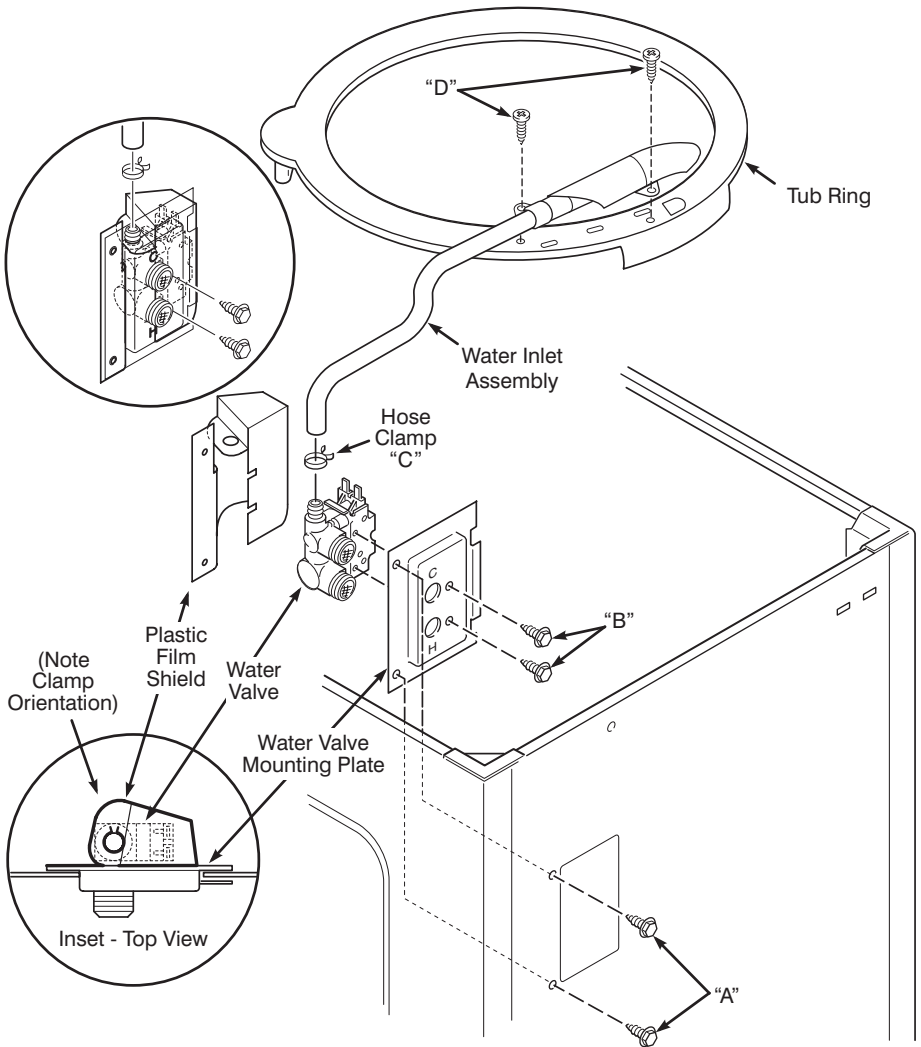

Figure 8
2. Referring to Figure 8, first remove (2) water inlet screws (labeled "D"), then remove water inlet hose clamp (labeled "C"), and set hose aside.
4. Remove (2) water valve mounting plate screws (labeled "A").
6. Remove (2) valve mounting screws (labeled "B") from plate. Remove valve.
1. Install (2) mounting screws (labeled "B") through water valve mounting plate into valve. See Figure 8.
2. Wrap plastic film shield around water valve as shown in inset of Figure 8. Assemble with film shield into position in cabinet hole.
3. Install (2) mounting screws (labeled "A") through cabinet, film and mounting plate.
5. Install water inlet assembly by first installing hose clamp (labeled "C"), then (2) water inlet screws (labeled "D").